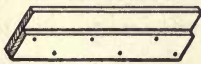

FIG. 128.—SLIDE ON WHICH TRAY RESTS.
11. **Making slides.** — The slides on which the trays rest should be as long as the chest is wide (inside measurements), and made of two pieces of $\frac{1}{2}$ " pine, one piece 6" wide and the other 3" wide, as in Fig. 128. The 3" strip is nailed to the 6" strip with one edge flush, and the whole is screwed to the ends of the chest 3" down from the upper edge, as shown in *Section on ab*, Fig. 119.